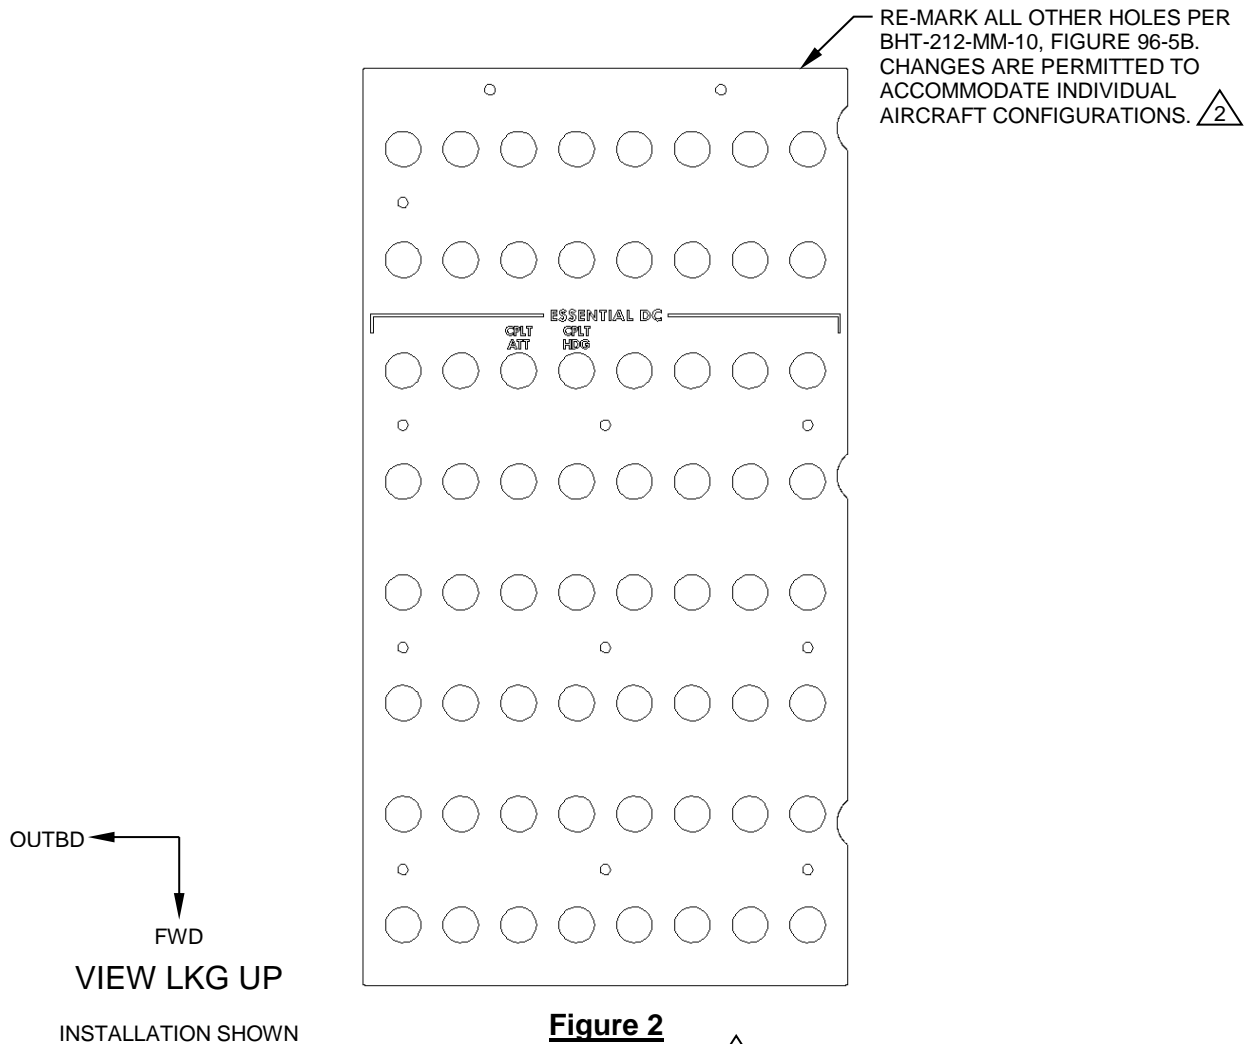

Figure 2
4. Remove the lit overlay on the LHS overhead breaker panel and have it re-marked as shown. Alternately, if only day VFR operations are anticipated, it is permissible to identify Attitude and Heading circuit breakers with locally fabricated “CPLT ATT” and “CPLT HDG” labels. Reference Figure 2.
- Do not remove and re-mark/re-label the co-pilot (LHS) lit overlay panel. Reference Figure 2 and Step 4.